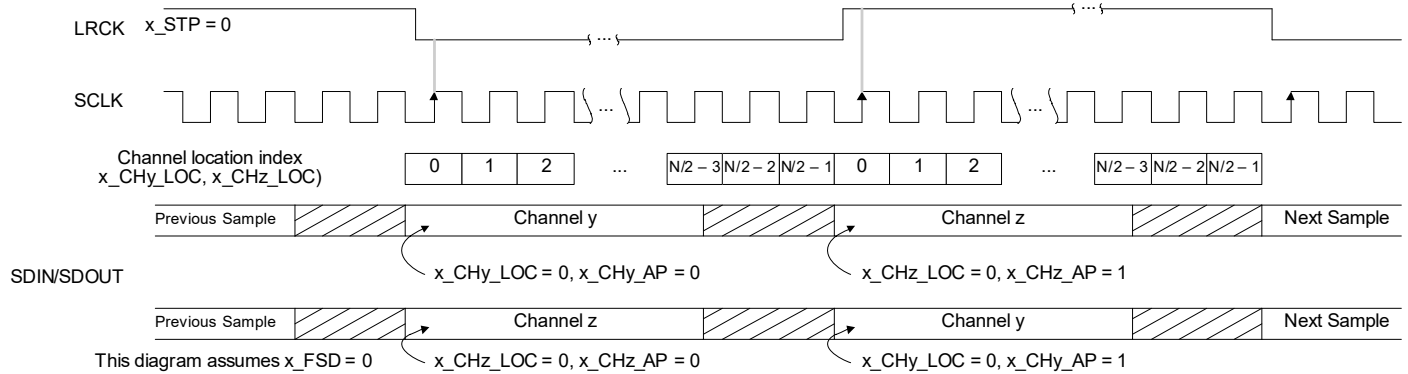

Figure 4-37. Example 50/50 Mode (ASP_STP = 0)
- If `ASP_STP = 0`, the frame begins when LRCK/FSYNC transitions from high to low. See Fig. 4-37.